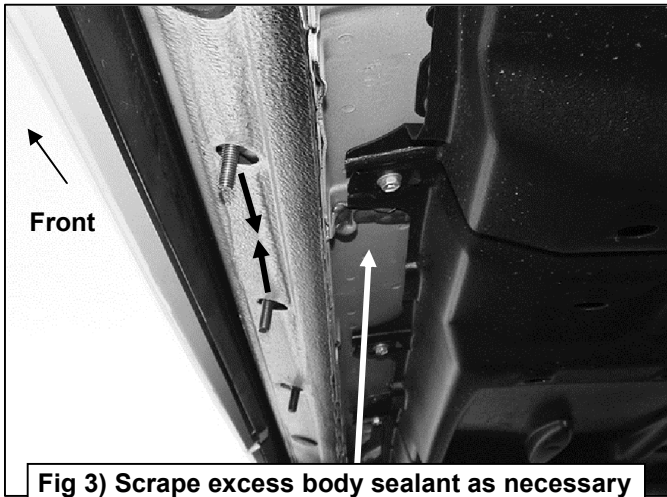

Fig 3) Scrape excess body sealant as necessary from all locations before installing Brackets
- Starting on the passenger side of the vehicle, locate the (9) rubber plugs along the lower body panel. From the front, remove the 3rd and 4th round plugs, **(Figure 1)**. Select (2) Bolt Plates, **(Figure 2)**. Check the location for body sealant and scrape away excess as necessary, **(Figure 3)**. Insert each Bolt Plate into the factory hole with the long end of the plates facing each other, **(Figures 1 & 3)**. Hold a Front Bracket over the Bolt Plates and line up the (2) mounting holes, **(Figure 4)**. Secure the Bracket to the Bolt Plates with (2) 10mm Flat Washers, (2) 10mm Lock Washers and (2) 10mm Hex Nuts, **(Figure 4)**. Snug but do not tighten hardware at this time.